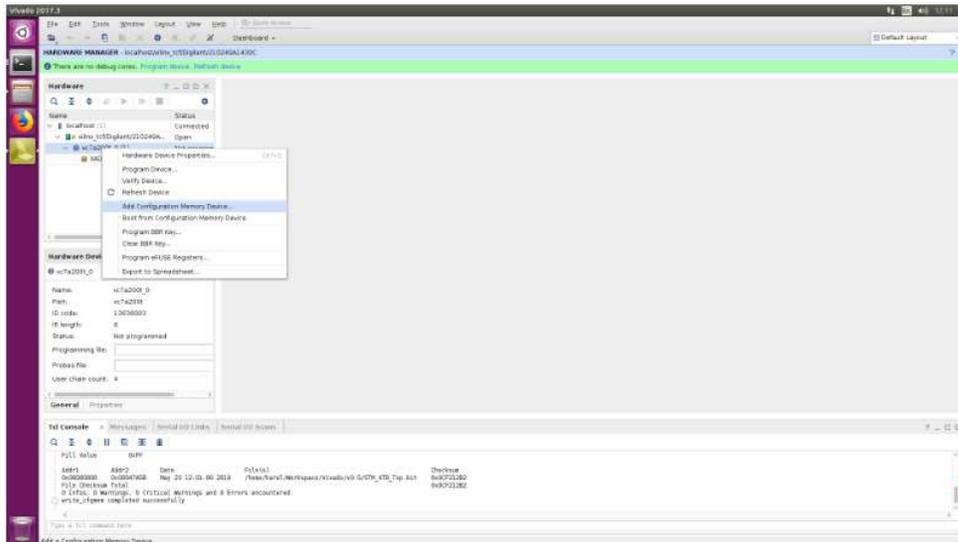

Figure 51: Add configuration memory device 1 [sc16]
7. The “Hardware” pane on the upper left-hand side of the screen fills. Right-click the file “xc7a200t” in the “Hardware” pane. A pop-up appears; left-click “Add Configuration Memory Device” (Figure 51,  STMA-69250);